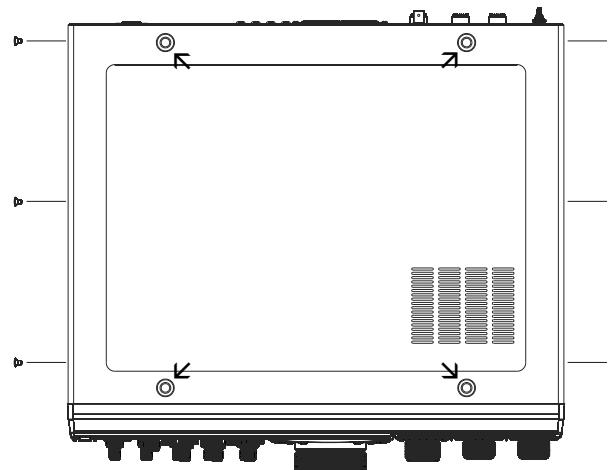

FIGURE 1
3. Referring to Figure 1, remove the three screws from each side of the transceiver and four screws from the top of the transceiver, then remove the top cover.